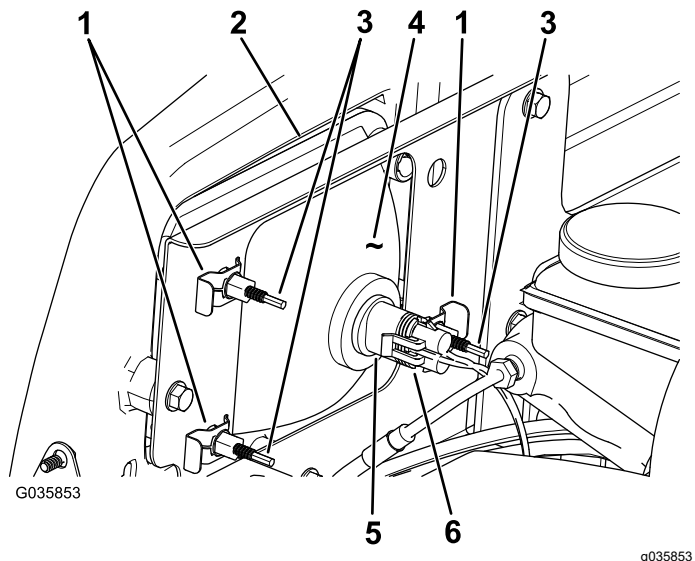

Figure 41
3. Disconnect the electrical connector for the harness from the connector of the lamp assembly (Figure 41).
4. Remove the speed clips that secure the headlight to the headlight bracket (Figure 41).
5. Remove the headlight assembly by moving it forward through the opening in the front bumper (Figure 41).
6. Install the new headlight through the opening in the bumper (Figure 41).
8. Connect the electrical connector for the harness to the connector of the lamp assembly (Figure 41).
2. At the back of the headlight assembly, rotate adjustment screws (Figure 41) to pivot the headlight assembly and align the position of the cast beam.